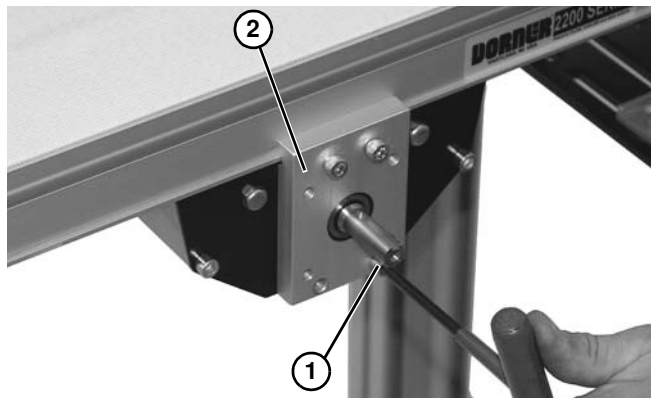
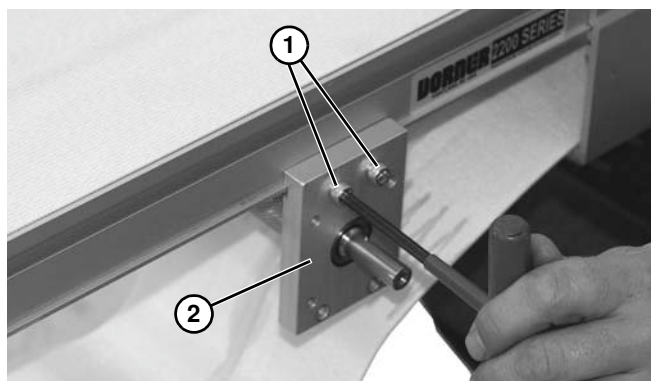

Figure 114
Figure 116
3. Loosen one socket head screw (**Figure 114, item 1**) from each side of mounting block (**Figure 114, item 2**).
5. Loosen two socket head screws (**Figure 116, item 1**) from each side of mounting block (**Figure 116, item 2**).
10. Tighten socket head screws (**Figure 114, item 1**) and (**Figure 116, item 1**) to 60 in-lb (7 Nm).